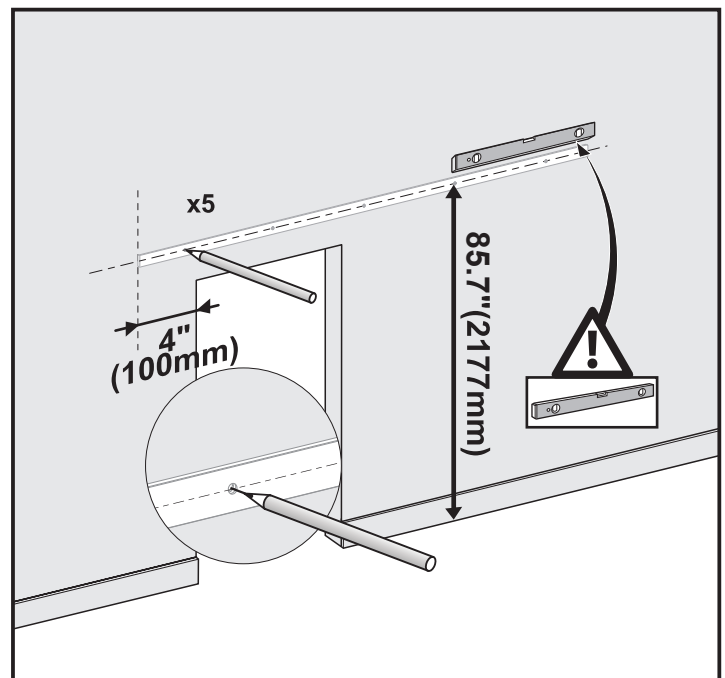

Fig 5
1. This step requires a second person. Measure the center of **Track [03]** from the floor as figure shows. Measure one end of **Track [03]** from the edge of opening as figure shows. (Fig 5)